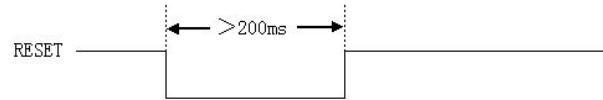

Figure 4-1 Reset time more than 200ms
- ◆ RESET time is more than 200ms.See figure 4-1.